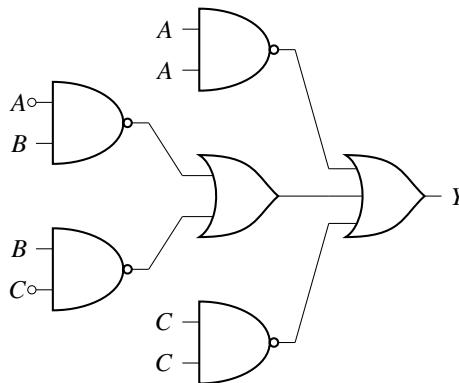

Fig. 3.4
11. Obtain the Boolean Expression for the logic circuit shown below in Fig. 3.4. (GATE EC 1993)